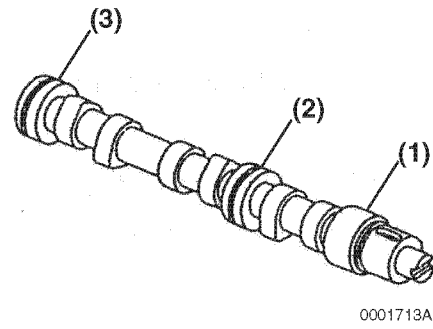

Figure 6-123
4. Measure the diameter of the gear end (**Figure 6-123, (1)**), intermediate (**Figure 6-123, (2)**), and flywheel end (**Figure 6-123, (3)**) bearing journals. See *Camshaft on page 6-11 for specifications*.